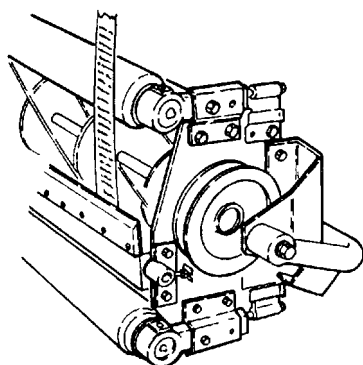

Figure 46
1. Make sure the reel contact is removed by turning the bedknife adjustment knob counterclockwise (Fig. 45). Tip the cutting unit to gain access to the reel and bedknife (Fig. 46).
4. Loosen the (2) carriage bolts on the bedbar adjuster (Fig. 46).